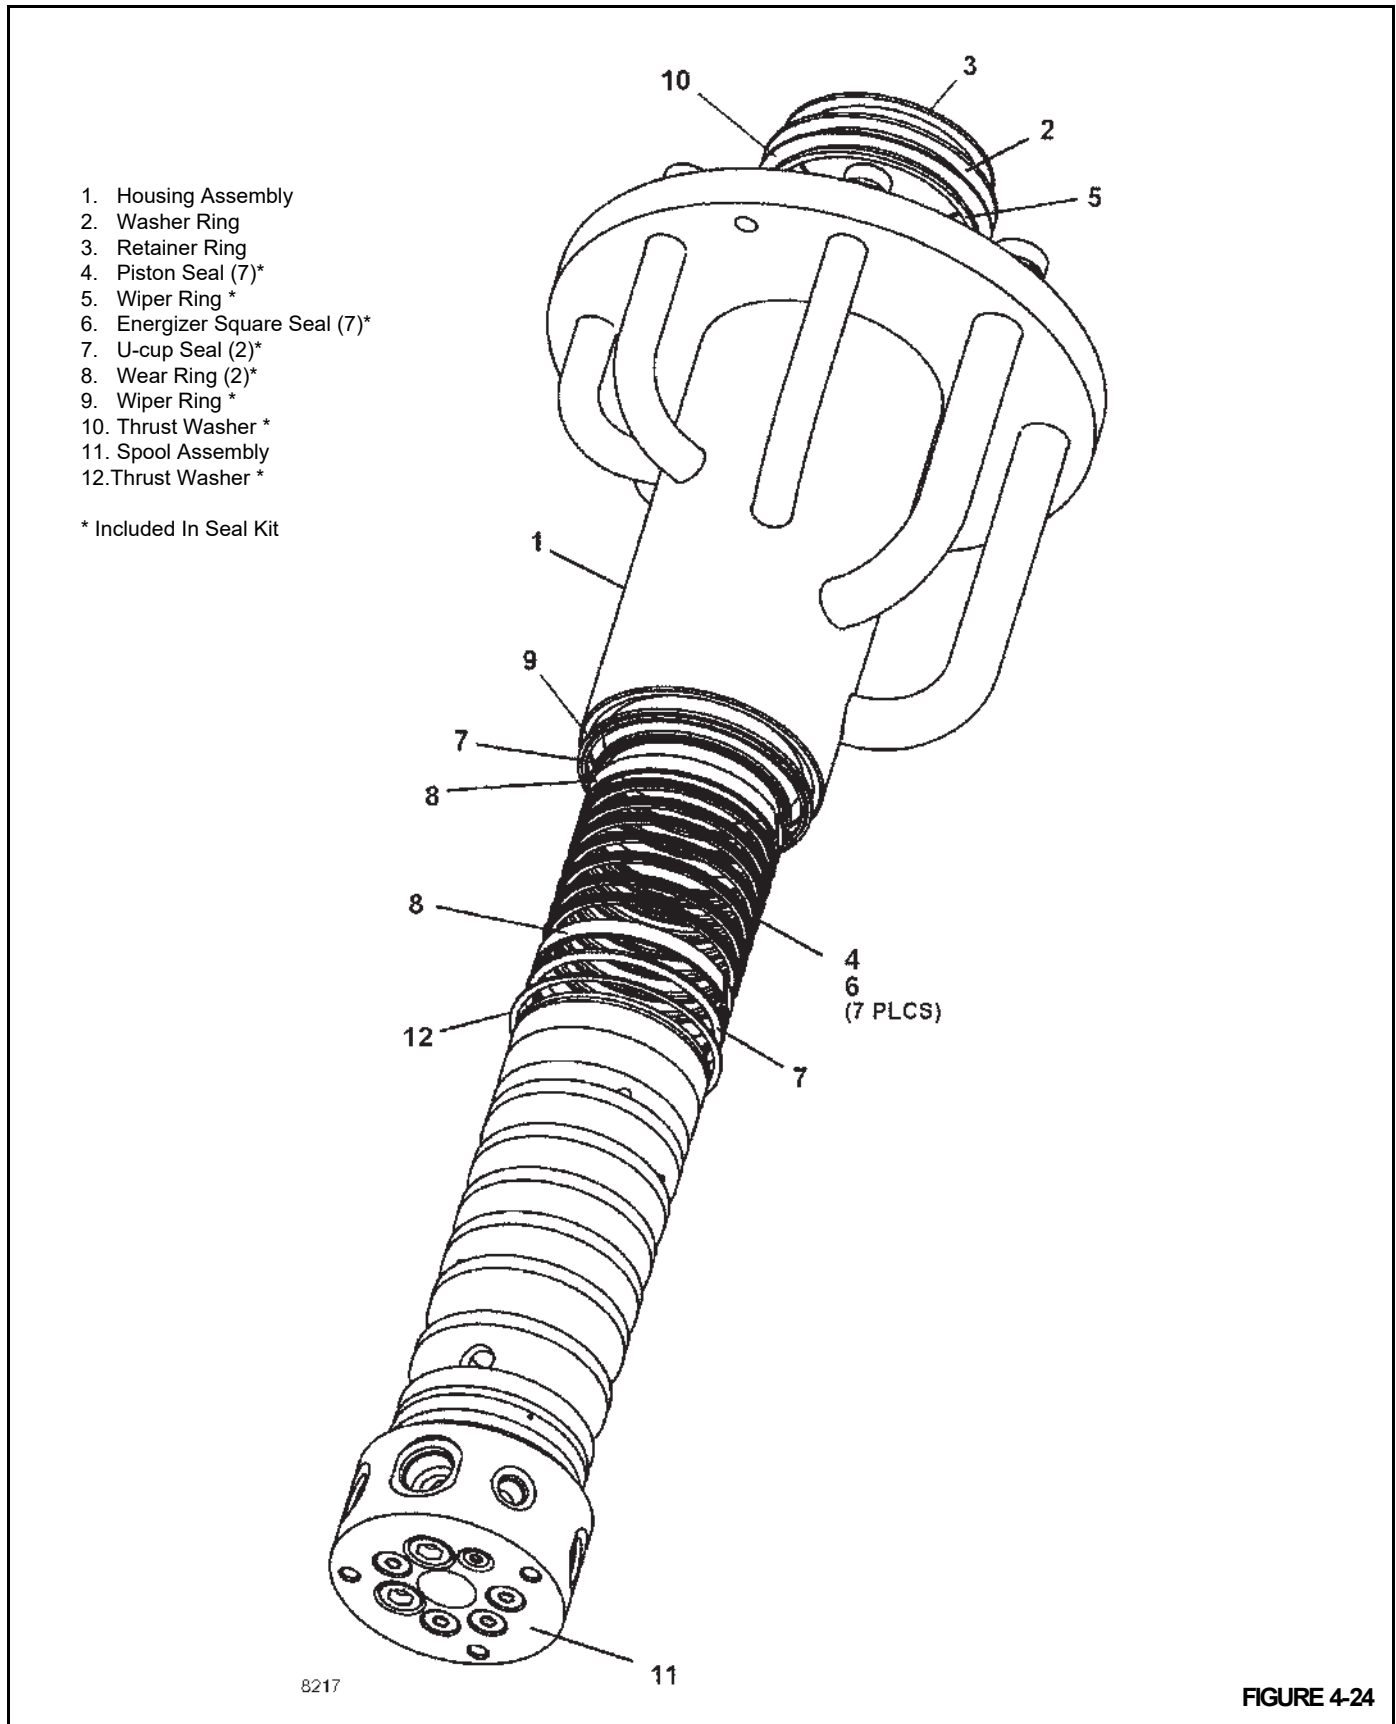

FIGURE 4-24
3. Fill the hoist motor with clean hydraulic fluid through the case drain port (Figure 4-24) to the bottom of the fill plug.
1. Remove retaining ring (3) (Figure 4-24) and washer ring (2). Remove and discard thrust washer (10) and wiper ring (5).
2. Carefully pull the swivel spool (11) from swivel housing (1). If the swivel spool can not be pulled from the swivel housing, hit the top of the swivel shaft with a soft hammer.
3. Remove and discard thrust washers (10, 12) and all seals and wear rings from spool (11).
**NOTE:** The hard rubber square seal (6) (Figure 4-24) must be warm before installation. Heat the seal with a trouble lamp. Do not apply lubricant to the loader before installation.
2. Walk one seal (7) down each groove until it reaches the last groove. Then slide seal down the spool until it seats in groove on the spool.